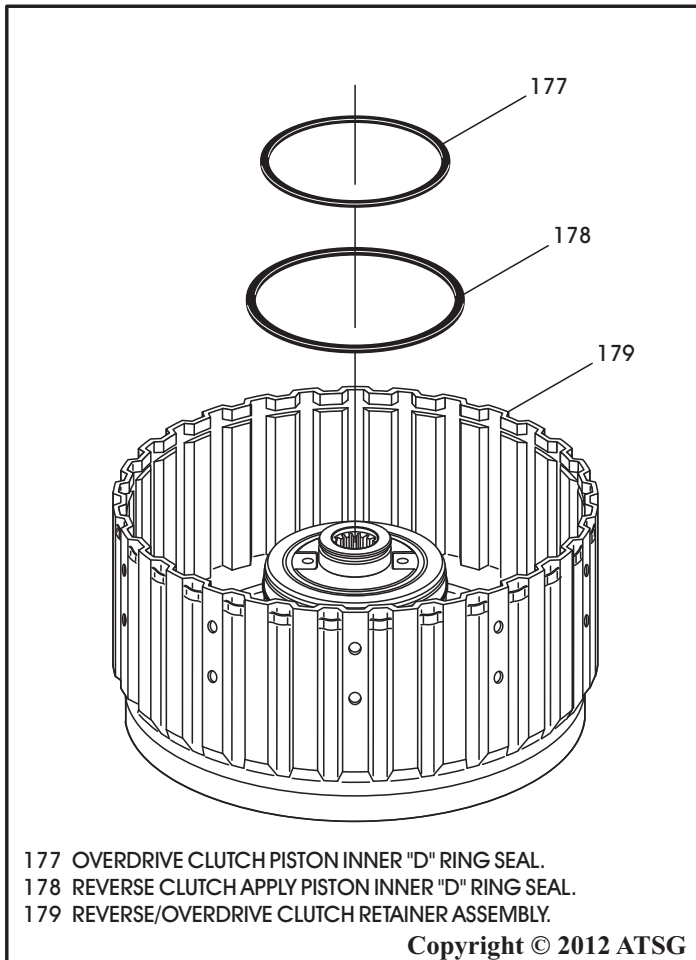

Figure 116
4. Install new inner piston "D" ring seal into lower groove in reverse/overdrive clutch retainer, as shown in Figure 116, and lube with small amount of Trans-Jel®.
5. Install new inner piston "D" ring seal into upper groove in reverse/overdrive clutch retainer, as shown in Figure 116, and lube with small amount of Trans-Jel®.